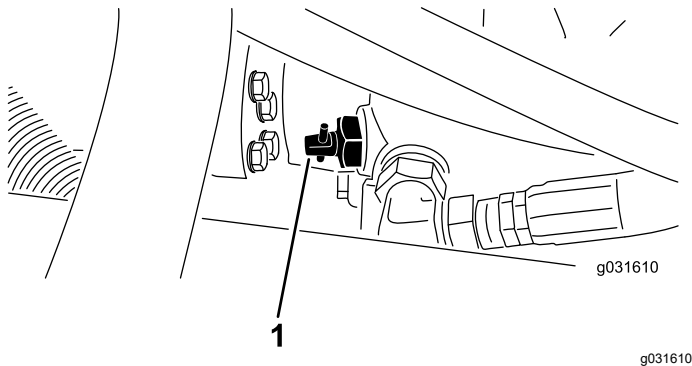

Figure 28
1. Locate the bypass valve on the pump (Figure 28) and loosen it by rotating 90° (1/4 of a turn).